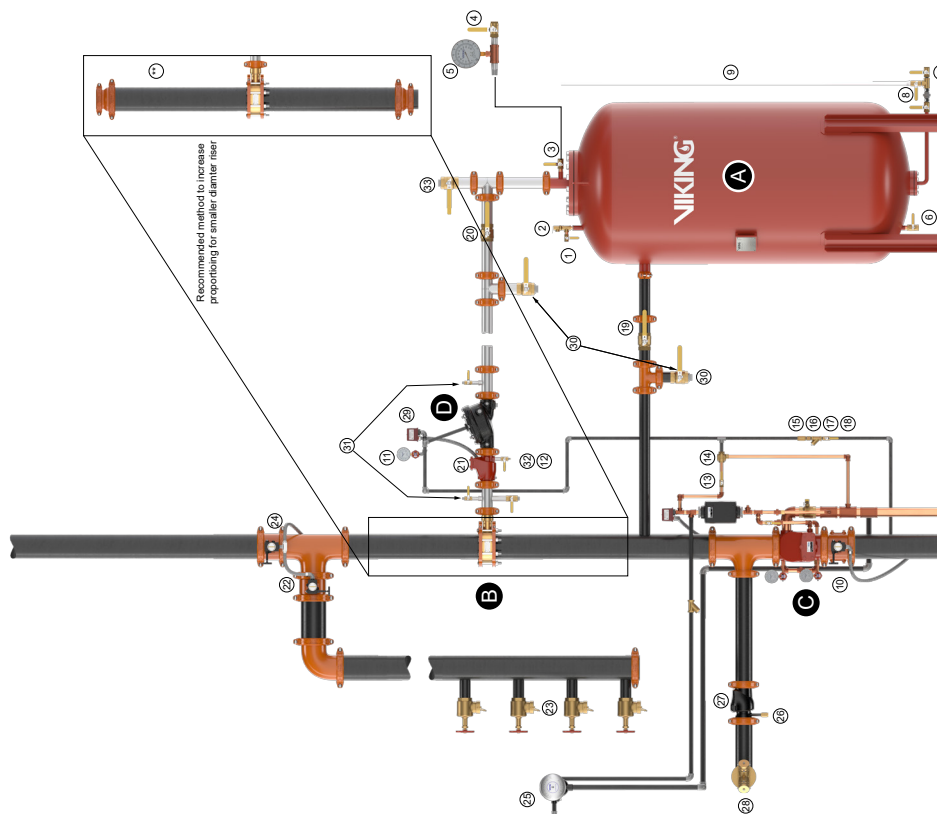

Figure 1
- A. Provide a minimum of 5 pipe diameters of straight pipe on the inlet and outlet of the wide range proportioner (B) to minimize turbulence inside the proportioner. Exception: The outlet for the tank water supply control valve may be connected nearer to the inlet of the proportioner and should not cause excessive turbulence. However, if the outlet to the foam solution test valve (22) is located closer than 5 pipe diameters, there may be turbulence at high flow rates.
- B. The combined total equivalent length of pipe (pipe length, plus equivalent lengths for fittings and valves) including both the water supply inlet piping (19) and the foam concentrate discharge piping (20), should not exceed 165 equivalent feet (50.3 meters); specifically, 100' (30.5 m) water supply and 65' (19.8 m) foam concentrate piping.
- C. The CCV (D) and swing check valve (21) must be connected adjacent to the wide range proportioner using the shortest pipe nipples as possible.
- D. The alarm check valve must be installed using the variable pressure trim and retard chamber to minimize false operation of the CCV (D). The releasing PORV (14) for the CCV (D) is activated by the operation of the alarm valve.
- E. Ball Valve (13) must be left in the open position, except when conducting alarm or flow test. Failure to close this valve before running an alarm or flow test will result in the unwanted discharge of foam concentrate. Once the test is completed, the valve must be returned to the open position, or the foam CCV (D) will not operate, and the foam concentrate will not flow to the wide range proportioner.
- F. The suggested location for a water flow switch, should one be required, is between the outlet of the alarm check valve (C) and the inlet to the ratio controller.
- G. Figure 1 is a general schematic of the required piping arrangement. Refer to the appropriate technical data page for specific information regarding the valve, tank, and related trim and devices.
- J. The CCV (D) requires a 1/2" priming line with CCV priming connection package. This package includes PORV (14), restricted orifice (16), check valve (15), strainer (17) and ball valve (18). Auxiliary drain valve and gauge with 3-way valve are included in the CCV Trim kit along with the plugs required for all other unused connections. Refer to the Viking website to find the correct trim kit part number for the corresponding size of CCV (D).